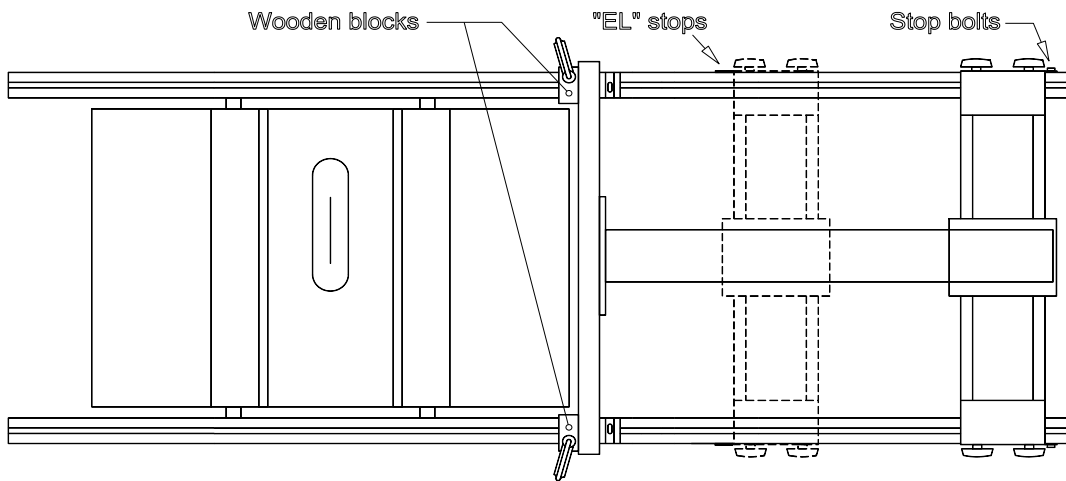

Fig. 2 – Base assembly repositioned 20" to right
6. Unlock the carriage and slide the base assembly toward the end of the rails. Lock the carriage when the 0" mark on the scale shows under the cursor. This moves the base exactly 20" to the right from its original position. (Fig. 2)
7. With the fence still *gently* touching both wooden blocks and everything resting naturally on the rails, tighten the base clamping knobs and tighten a set of stop bolts against the *right* edges of the base clamps. (Fig. 2)